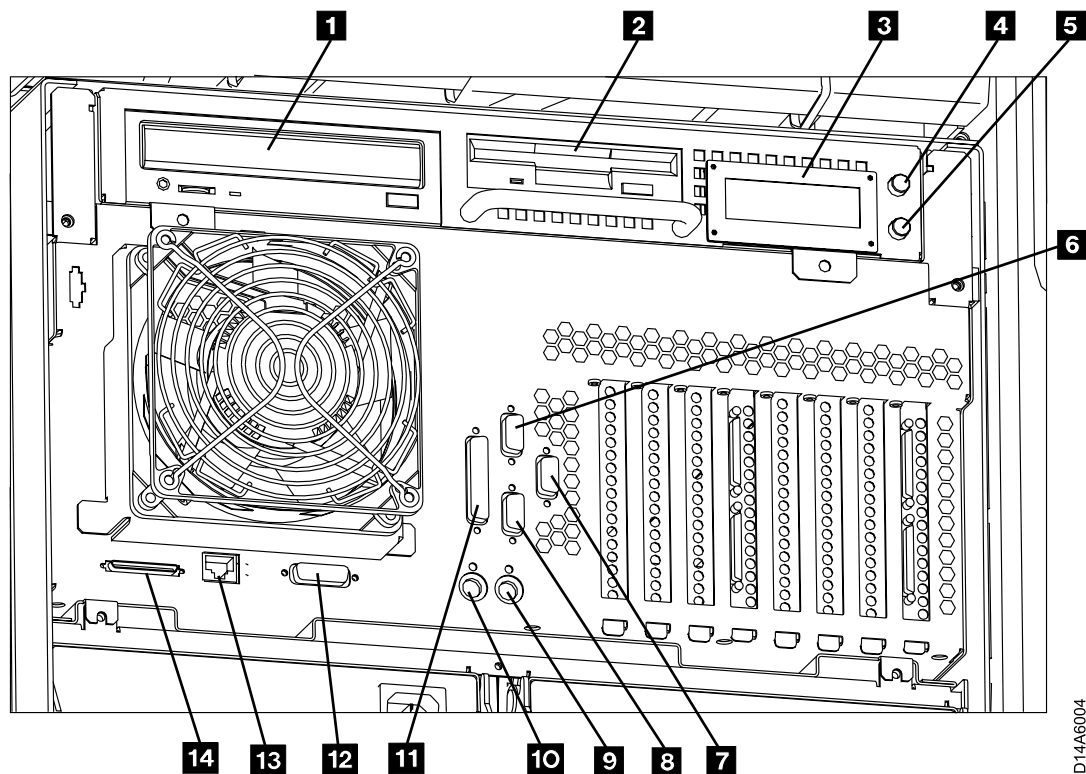

Figure 132. A60 Controller Controls and Connections
1. To power on the A60 controller press **4**. See Figure 132 on page 389.